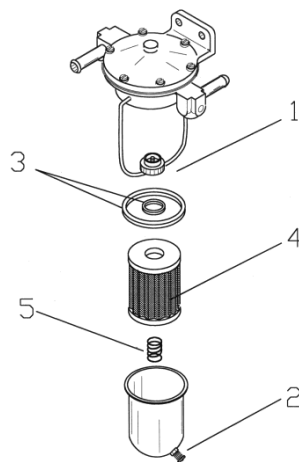

Figure 6-2 Gascolator
Drain gascolator daily (see Fig. 6-2) using the spring tap (2). Unscrew ring nut (1) for disconnect bowl and accede at wire mesh filter (4), use particular care not to damage seal (3) and spring (1)